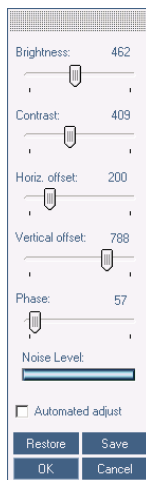

Figure 21 Manual Video Adjustments controls
1. Click Manual Video Adjust. A slider bar appears. See Figure 21. Also a red frame appears around the screen. This represents the screen area according to the Server's screen resolution. Perform the adjustments inside and relative to this frame.